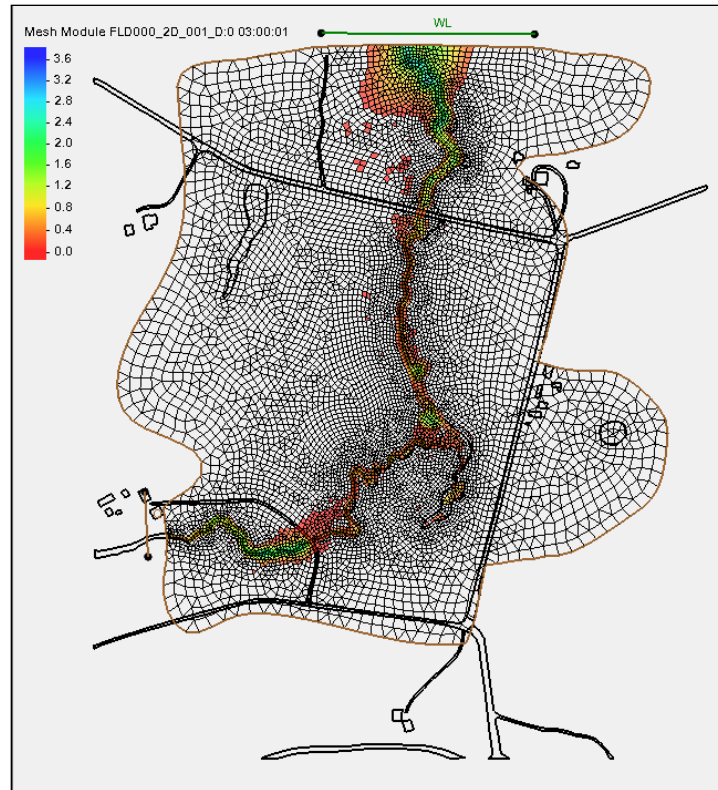

Figure 4 The last time-step for the water depth solution
9. In the *Time Step* window, select the last time step. The *Graphics Window* will appear similar to Figure 4.